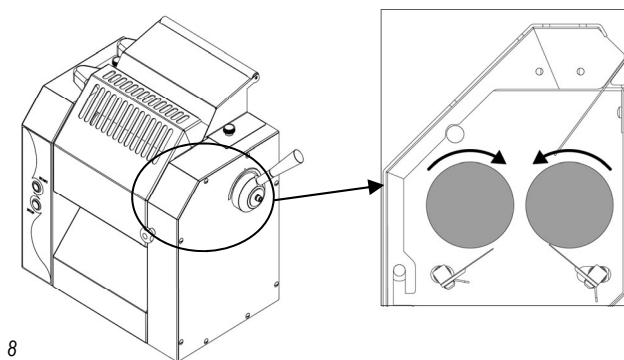

FIG. no. 8
### 5.3 - ROLLER ROTATION (see FIG. no. 8)
4. **CAUTION!** if the machine is configured for three-phase power, check that the sense of rotation of the rollers is the right one (see FIG. no. 8); if it is not, invert the two phases of the power plug.
1. **CAUTION!!** With three-phase powered machines, make sure that the sense of rotation of the rollers is the right one (see FIG. no. 8); if it is not, invert the order of the two phases on the plug.